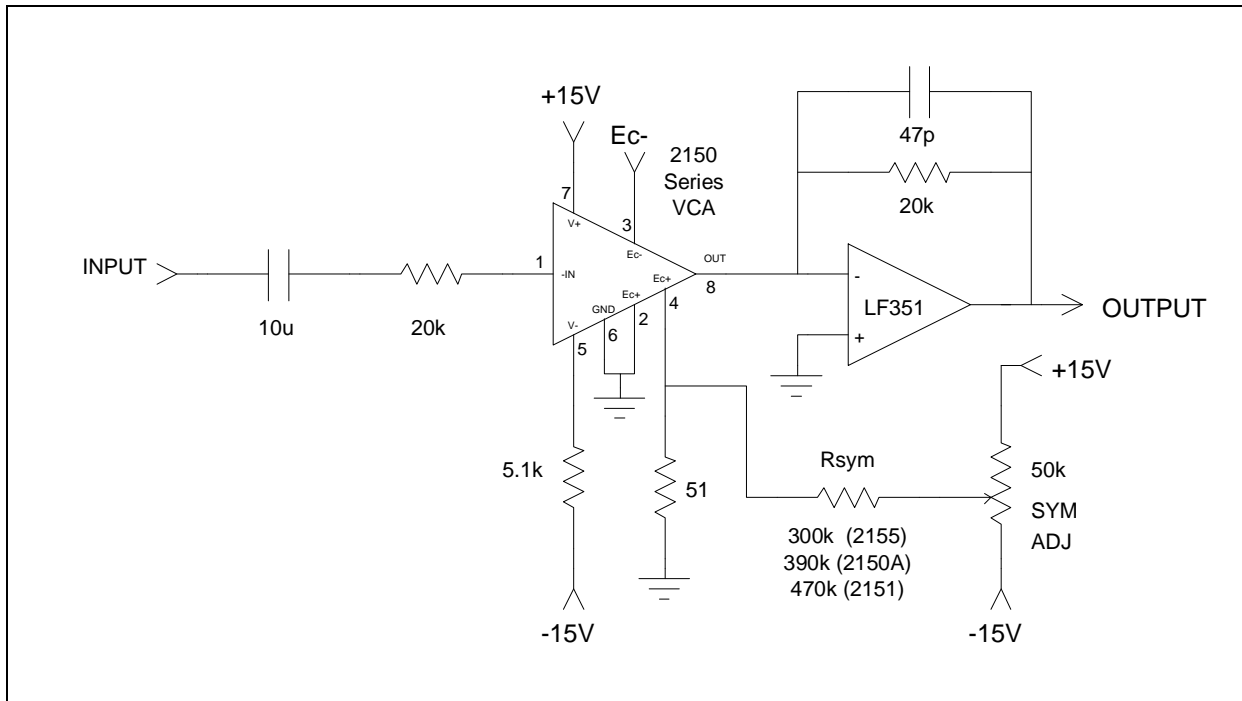
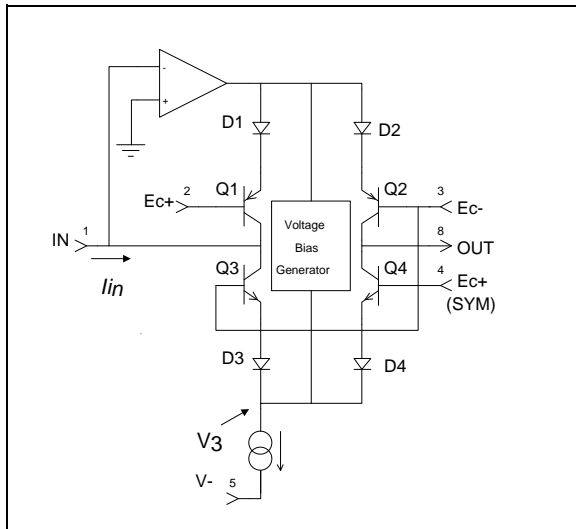
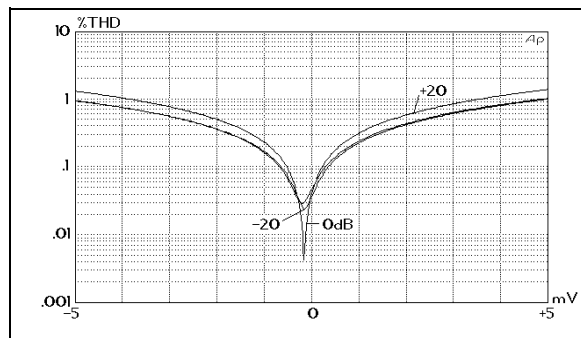
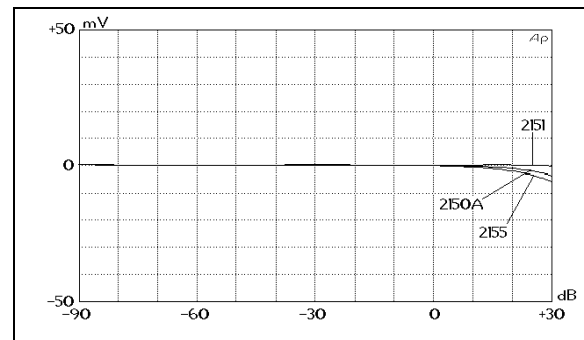

Figure 3. Typical Application Circuit
Figure 6. Simplified Internal Circuit Diagram
Figure 8. Typical THD Versus Symmetry Voltage
Figure 9. DC Offset Vs. Gain, After Symmetry Adjustment
2. Unless otherwise noted, T_A = 25°C, V_{CC} = +15V, V_{EE} = -15V. Test circuit is as shown in Figure 3. SYMADJ is adjusted for minimum THD @ V_{IN} = 1 V, 1 kHz, 0 dB gain.
Figure 6 presents a considerably simplified internal circuit diagram of the IC. The ac input signal current flows in pin 1, the input pin. The internal op amp works to maintain pin 1 at a virtual ground potential by driving the emitters of Q1 and (through the *Voltage Bias Generator*) Q3. For positive input currents (I_{in} defined as flowing into pin 1), the op amp drives the emitter of Q1 negative, turning off its collector current, while simultaneously driving the emitter of Q3 nega-
In typical applications (see Figure 3, Page 3), pin 4 is connected to a voltage source at ground or nearly ground potential. Pin 8 is connected to a virtual ground (usually the inverting input of an op amp with negative feedback around it). With pin 4 near ground, and pin 8 at virtual ground, the voltage at the cathodes of D3 and D4 will cause an exponentially-related current to flow in D4 and Q4, and out via pin 8. A similar equation governs this behavior:
A quiescent bias current in the core transistors is established by the *Voltage Bias Generator* shown in Figure 6. This current acts like crossover bias in the output stage of a complementary class AB power amplifier, smoothing the transition between turning on the top (PNP) pair and the bottom (NPN) pair of transistors in the core. This lowers distortion greatly at some cost to noise performance, as the current noise of the core transistors (which run at approximately 20 μ A) is the dominant noise source in the 2150 Series VCAs.
The monolithic construction of the devices assures relatively good matching between the paired transistors, but even small V_{BE} mismatches can cause unacceptable asymmetries in the output. For this reason, the bases of Q1 and Q4 are brought out separately to pin 2 and pin 4, respectively. This allows a small static voltage differential to be applied to the two bases. The applied voltage must be set to equal the sum of the V_{BE} mismatches around the core (*which varies from sample to sample*). Figure 3 (Page 3) includes a typical circuit to apply this symmetry voltage. R_{SYM} controls primarily even-order harmonic distortion, and is usually adjusted for minimum THD at the output. Figure 8 plots THD vs. the voltage between pins 2 and 4 (the two E_{C+} ports) for various gain settings of a typical part.
vent such dc terms, ac input coupling is strongly recommended. A plot of typical output offset voltage versus gain for the circuit of Figure 3 is shown in Figure 9. (The LF351's offset was adjusted to 0 V for this plot.)
The size of the current source at the bottom of the core (Figure 6, Page 4) is programmed externally via I_{SET} , which is normally determined by a resistor from pin 5 to V_- . The voltage at pin 5 is typically -2.7 V. I_{SET} divides into two portions: approximately 400 μ A is used for internal biasing, and the rest is available for the current source at the bottom of the core. I_{SET} should therefore be 400 μ A larger than the total of the peak input and output signal currents.
The input pin (pin 1) is a virtual ground with negative feedback provided internally (see Figure 6, Page 4). The input resistor (shown as 20 kΩ in Figure 3, Page 3) should be scaled to convert the available ac input voltage to a current within the linear range of the device. (Peak input currents should be kept under 1 mA for best distortion performance.) An additional consideration is stability: the internal op amp is intended for operation with source impedances of less than 30 kΩ at high frequencies. For most audio applications, this will present no problem.
The output pin (pin 8) is intended to be connected to a virtual ground node, so that current flowing in it may be converted to a voltage (see Figures 3, 14, & 15). Choose the external op amp for good audio performance. The feedback resistor should be chosen based on the desired current-to-voltage conversion constant. Since the input resistor determines the voltage-to-current conversion at the input, the familiar ratio of R_f/R_i for an inverting op amp will determine the overall voltage gain when the VCA IC is set for 0 dB current gain. Since the VCA performs best at settings near unity gain, use the input and feedback resistors to provide design-center gain or loss, if necessary.
symmetry voltage ($<\pm 2.5$ mV) to correct for V_{BE} mismatches within the VCA IC. For this purpose, the 2150 series devices were designed for optimum performance with an impedance of approximately 50Ω at pin 4. A trim pot is used to adjust the voltage between pin 4 and pin 2 as shown in Figure 3, Page 3. For supply voltages other than shown, scale R_{SYM} to provide the required adjustment range.